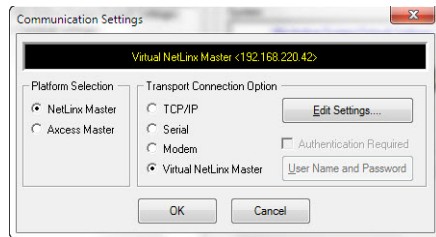

FIG. 18 Communications Settings dialog box
3. Click the **Communications Settings...** button to open the *Communications Settings* dialog box (FIG. 18).